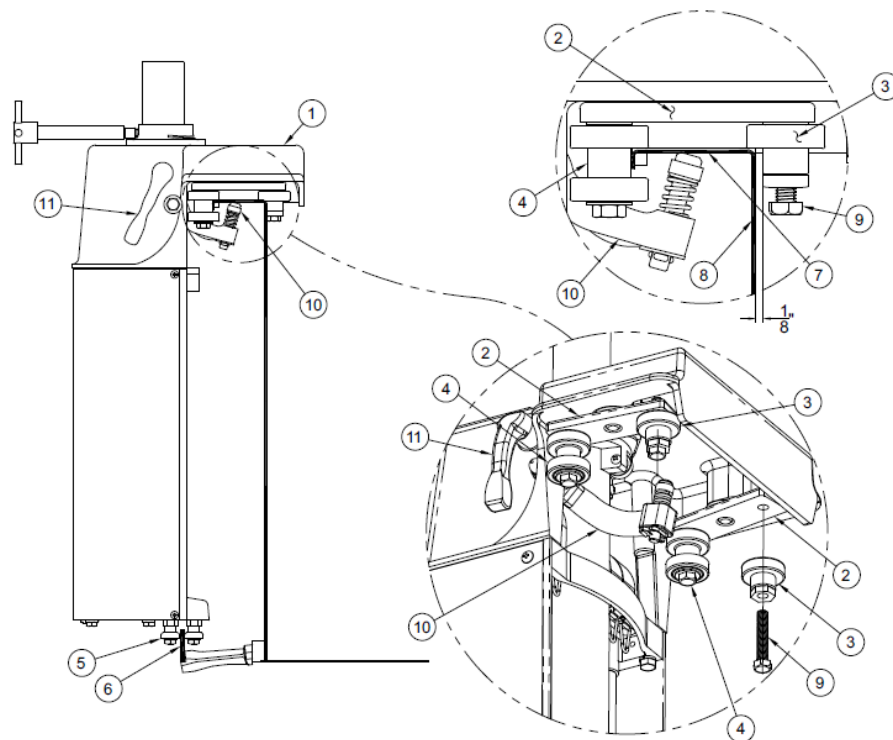
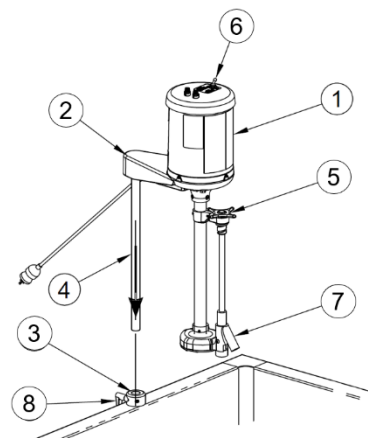

Figure 5: Installing Carriage Assemblies (F-270/300/425-S only)
Figure 6: Installing turbine on F-260-S
### For F-260-S (Figure 6),
3. F-270/300/425-S only (Figure 5): To change the lateral position of the turbine:
- a. With both hands on the carriage assembly, turn handle clockwise (11) to unlock carriage assembly from tub and slowly push the carriage assembly to the desired location.
- b. Lock the lateral position of the carriage assembly by turning handle counterclockwise (11).
- a. F-260-S (Figure 6):
- i. Loosen handle (8) to unlock turbine.
- ii. Slowly push down on the top of the motor support casting (2) until the bottom of the turbine is at the desired location.
- iii. Tighten handle (8) to lock in place.
WARNING: Keep your hands on the motor support casting (2) during this operation. Movement of the lifting mechanism in the carriage assembly (see Figure 5) could cause injury.
Refer to Figure 5 and Figure 6 for the remaining steps:
Refer to Figure 6 and Figure 7.